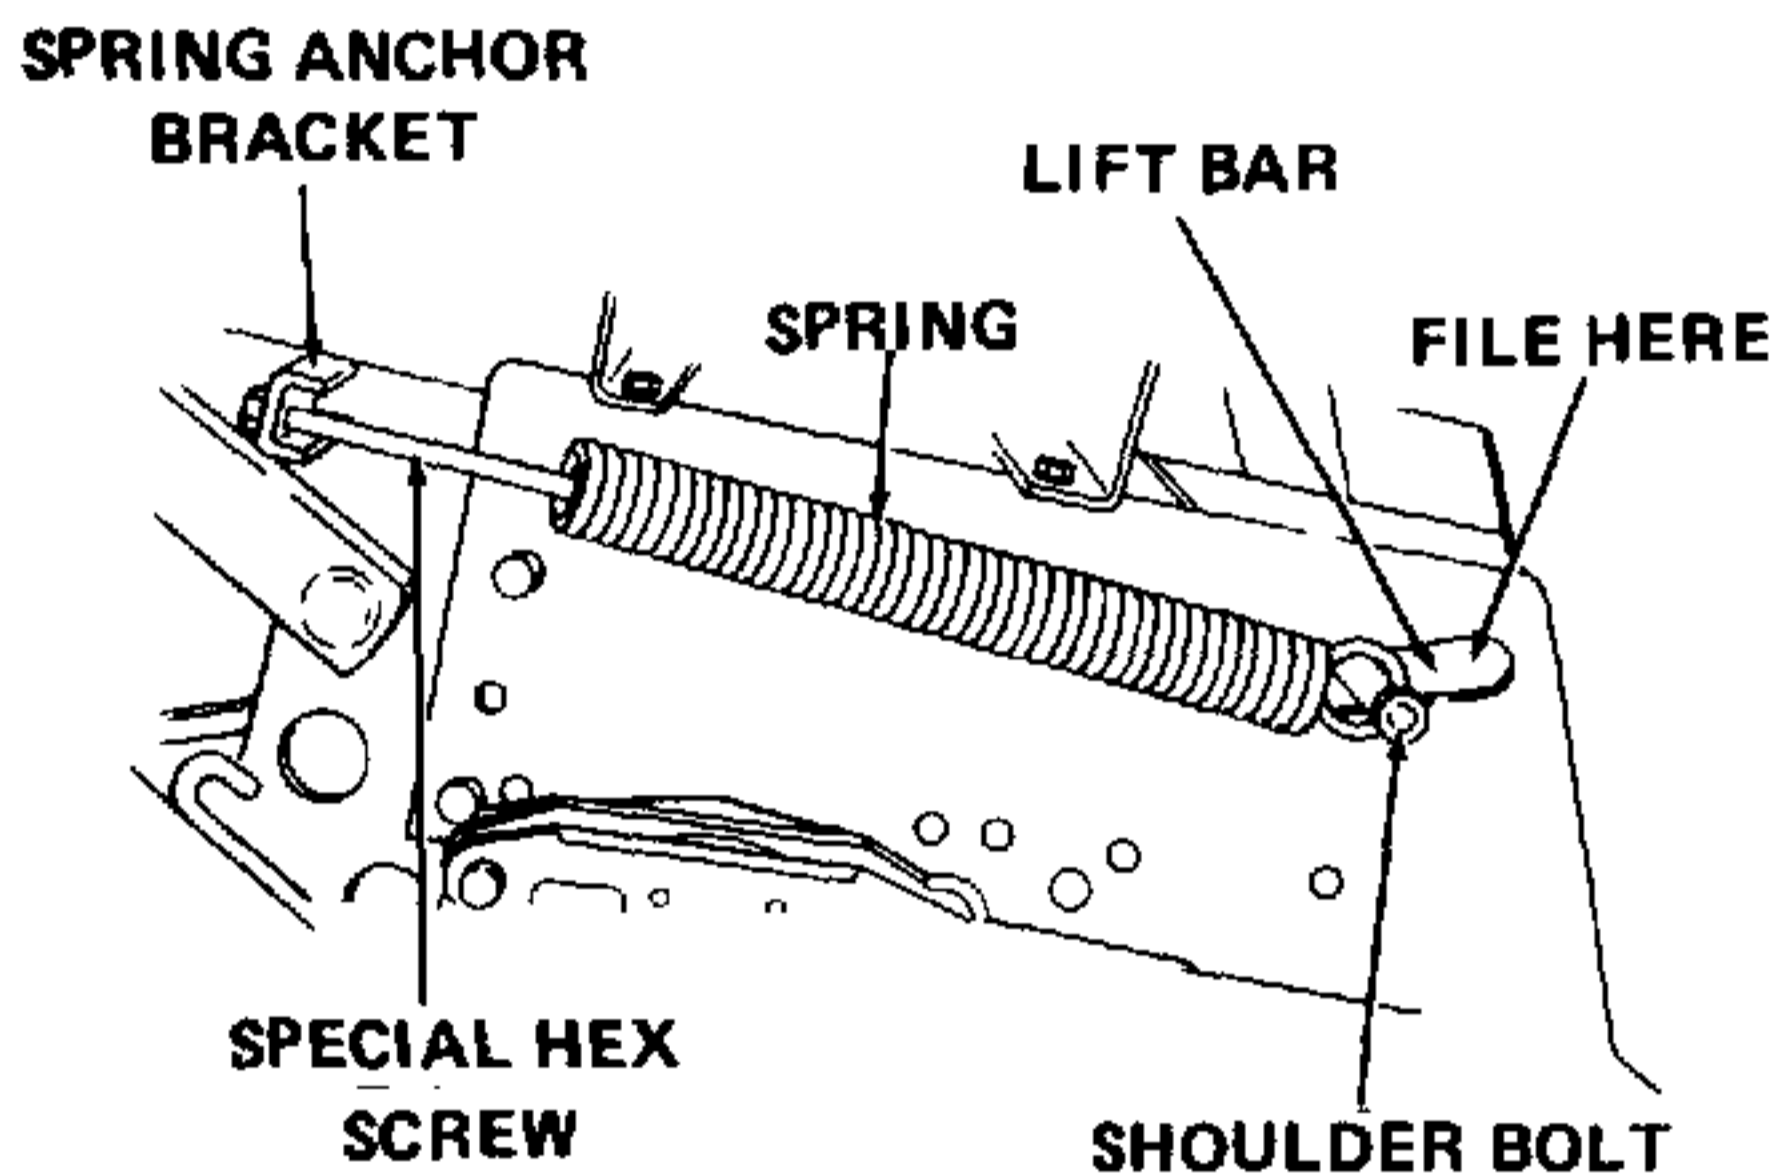

Figure 7-65. Installing Spring.
14. Install spring (12, Figure 7-41). Refer to Figure 7-65.
- a. Thread socket head shoulder bolt (23, Figure 7-40) to lift bar through slot in frame. Refer to Figure 7-65.